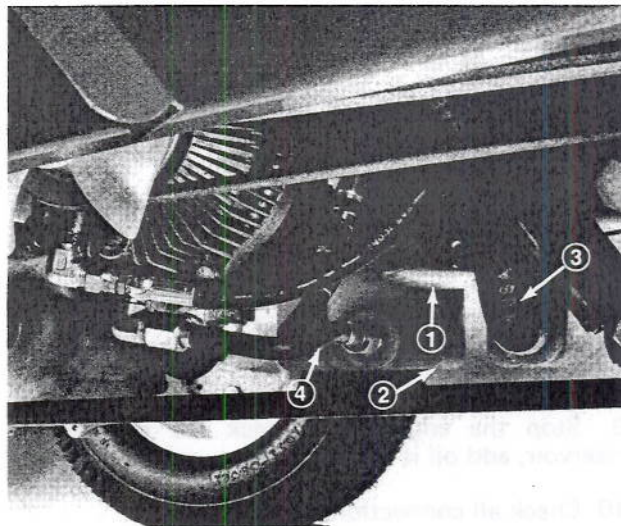

Figure 25
1. Remove hydraulic oil filter from mounting head (Fig. 25). Dispose of the filter properly.
2. Clean the area around the hydraulic oil filter and remove the filter from the bottom of the filter housing (Fig. 25).
3. Disconnect tube assembly and hose assembly from reservoir and allow the oil to flow into a drain pan (Fig. 25).